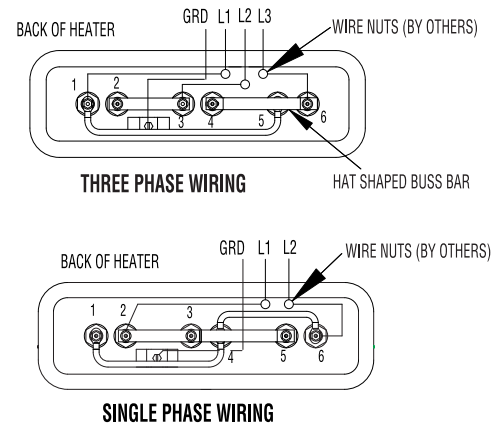

Figure 2
**NOTE:** All 3 element heaters are factory pre-wired for 3-phase delta operation. Some units can be converted to single phase operation by changing the wiring. Refer to Table 1 for those heaters that can be converted to single phase. The appropriate wiring diagram (Figure 2) is also located on the bottom of the enclosure.